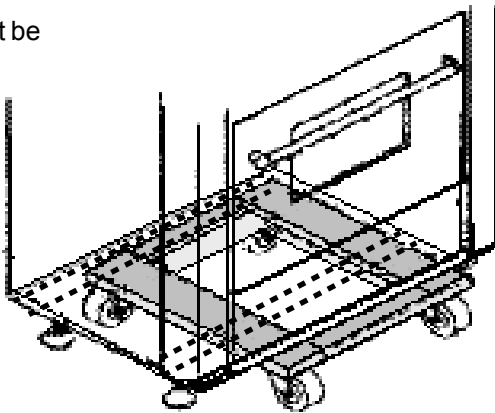

Figure 6: Dolly Positioning
5. Due to the weight, a furniture dolly with soft wheels or an air lift should be used to move this unit. The weight must be supported uniformly across the bottom (Figure 6).